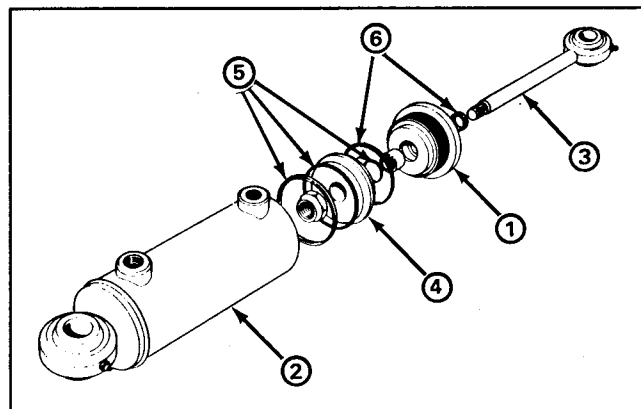

Figure 14
4. Use a spanner wrench to unscrew (counterclockwise) the gland from the cylinder tube (Fig. 14).